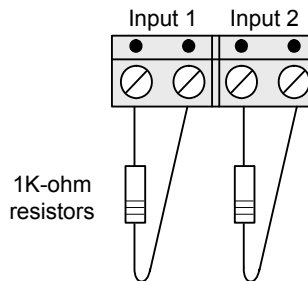

Figure 5.3: Attaching Resistors to the Supervised Inputs
- To test the supervised inputs, attach a 1K-ohm resistor to each input (Input 1 and Input 2) as shown in Figure 5.3. Prior to installing the resistors, the input state should be open (0). After installing the resistors, the input state should be secure (I1=1 and I2=1).